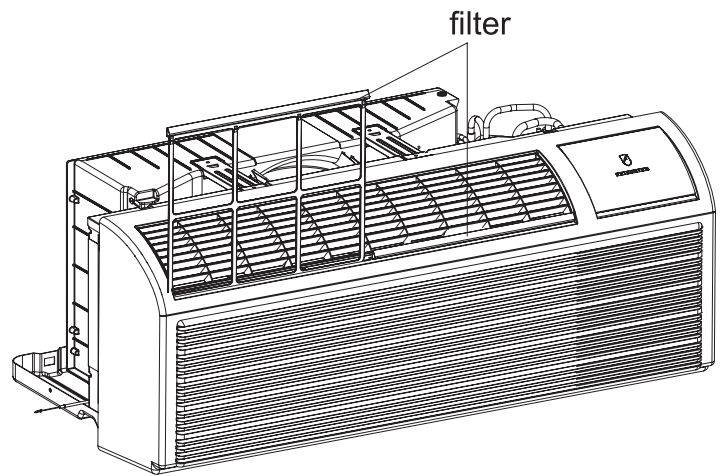

Figure 501
1. Hold front end of filter with hand and then pull the filter upwards to remove it. See figure 501.